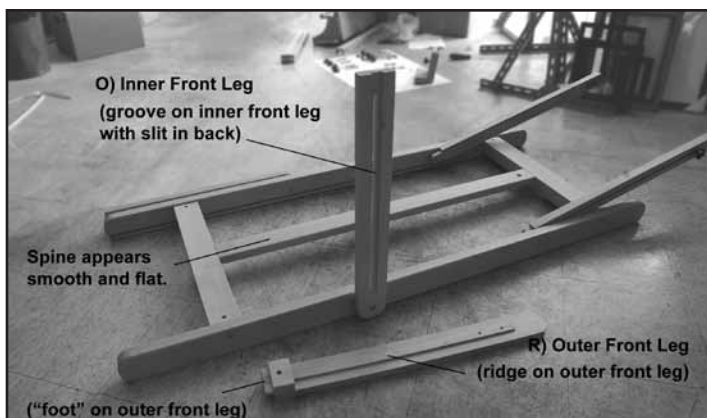

Fig. 1a - Laying the frame flat.
1a. Lay the frame flat as shown in Figure 1a. The spine should appear flat and smooth. If you can see the “vertebrae” of the spine (the metal ridges), you have laid it upside down. If the Back Legs (O) seem “caught” underneath the frame when you lay it correctly, you can gently pull them towards the spine so that their adjustment knobs are no longer “caught,” and then gently pull the legs “through” so that they can swing freely up.